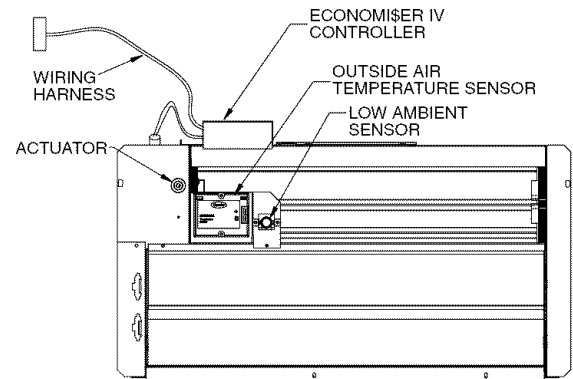
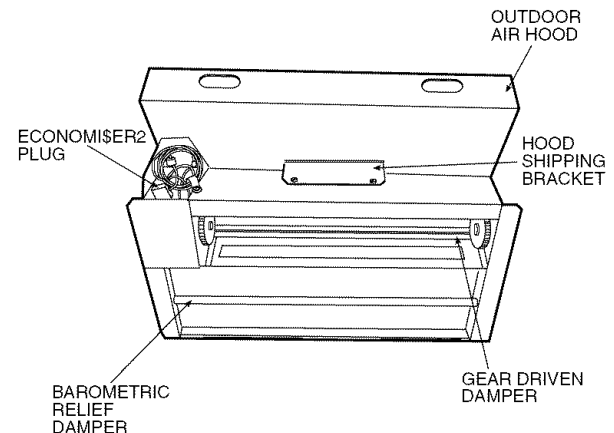
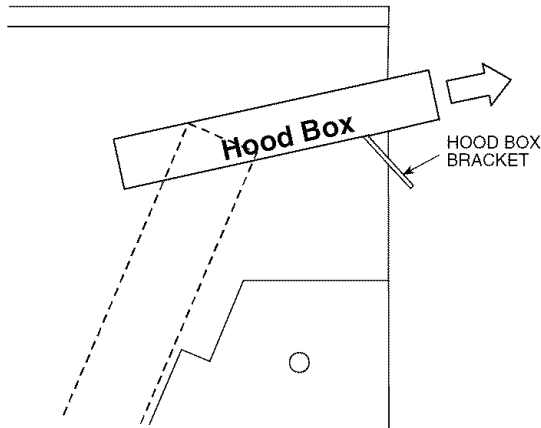

Fig. 25 — EconoMi\$er IV Component Locations
Fig. 26 — EconoMi\$er2 Component Locations
Fig. 28 — Hood Box Removal
OPTIONAL ECONOMISER IV AND ECONOMISER2 — See Fig. 25 for EconoMi\$er IV component locations. See Fig. 26 for EconoMi\$er2 component locations.
2. The box with the economizer hood components is shipped in the compartment behind the economizer. The EconoMi\$er IV controller is mounted on top of the EconoMi\$er IV in the position shown in Fig. 25. The optional EconoMi\$er2 with 4 to 20 mA actuator signal control does not include the EconoMi\$er IV controller. To remove the component box from its shipping position, remove the screw holding the hood box bracket to the top of the economizer. Slide the hood box out of the unit. See Fig. 28.
Outdoor Air Temperature (OAT) Sensor — The outdoor air temperature sensor (HH57AC074) is a 10 to 20 mA device used to measure the outdoor-air temperature. The outdoor-air temperature is used to determine when the EconoMiSer IV can be used for free cooling. The sensor is factory-installed on the EconoMiSer IV in the outdoor airstream. See Fig. 25. The operating range of temperature measurement is 40 to 100 F.
Outdoor Air Lockout Sensor — The EconoMiSer IV is equipped with an ambient temperature lockout switch located in the outdoor air stream which is used to lockout the compressors below a 42 F ambient temperature. See Fig. 25.